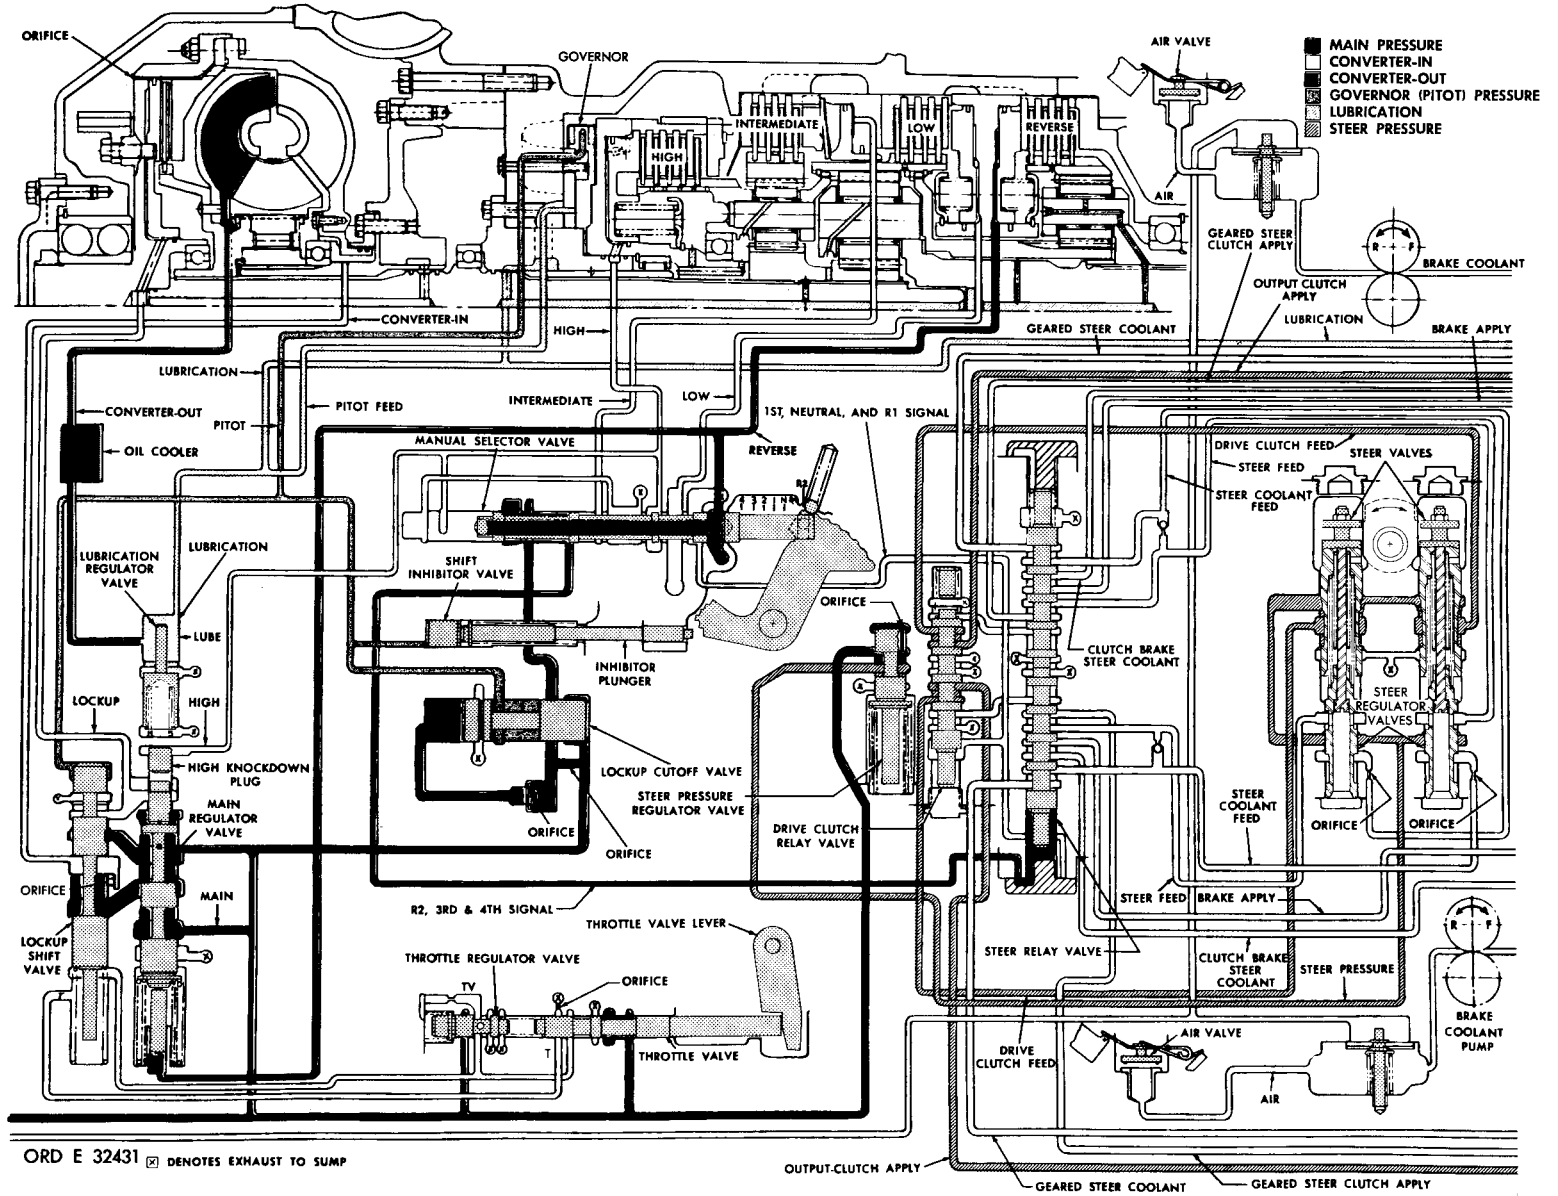

Figure 12. Hydraulic system, reverse 2 gear — schematic view
36. HYDRAULIC SYSTEM FUNCTION - REVERSE 2 GEAR (fig. 12)